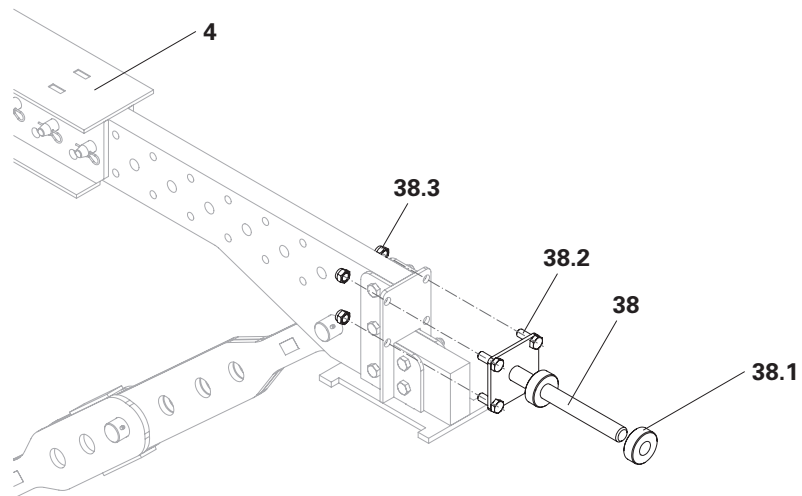

Fig. B2.09
1. Screw the bracing spindle (**38**) to the bearing frame (**4**) with four screws (**38.2**) and nuts (**38.3**). (Fig. B2.09)